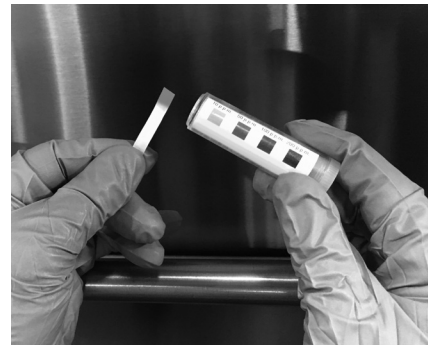

Fig. 11
3. Compare the test strip to the test scale provided with your testing kit (Fig. 11). If the sanitizer level is out of limits (i.e. below 50 ppm or above 100 ppm), adjust the dosing. Refer to Chemical Pump Programming (page 15), for adjustment instructions, or contact your chemical provider.